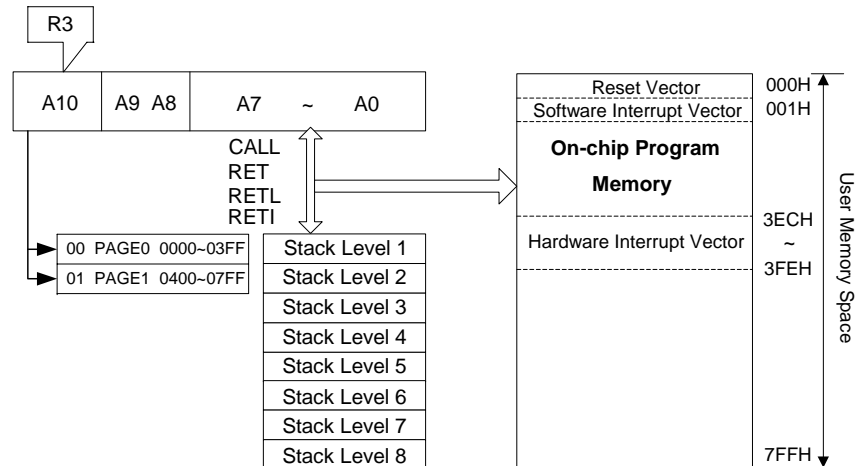

Fig. 5-2 Program Counter Organization
- The prescaler (RC) is assigned to TCC.
- Depending on the device type, R2 and hardware stack are 11-bits wide. The structure is depicted in Fig. 5-2.